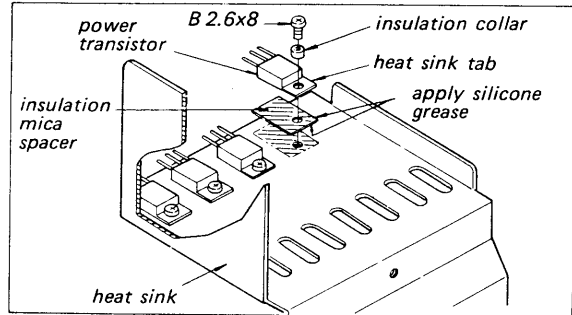

Fig. 2-9. Power transistor replacement
- When replacing the power transistor, apply a coating of a heat-transferring grease to both sides of insulation mica spacer to the indicated portion as shown in Fig. 2-9. Any excess grease squeezed out when the mounting bolts are tightened should be wiped off with a clean cloth. This prevents it from accumulating conductive dust particles that might eventually cause a short.